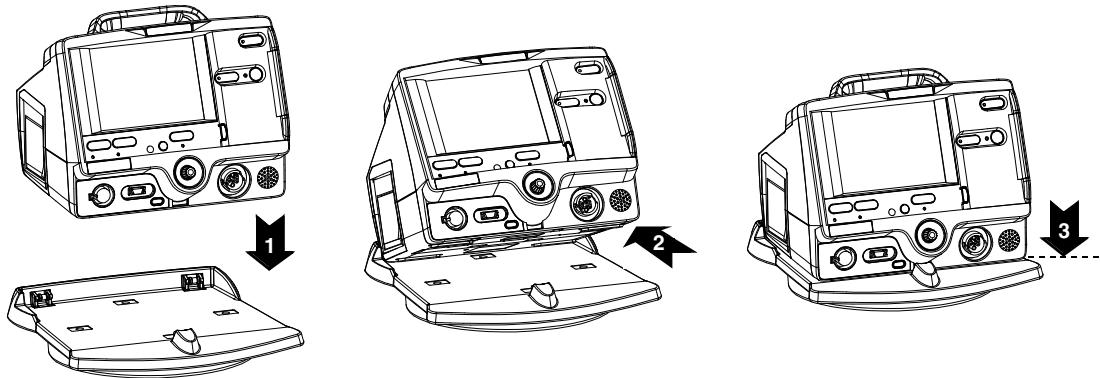

Figure G-1 Docking Station
- 1 Hold the LIFEPAK 20e defibrillator/monitor by the handle over the docking station (refer to Figure G-1, arrow 1).
- 2 Tilt the LIFEPAK 20e defibrillator/monitor backward into the docking station, aligning slots in the rear of the defibrillator to rollers on the docking station (refer to Figure G-1, arrow 2).
- 3 Align recess in lower front panel of the LIFEPAK 20e defibrillator/monitor with the front roller on the docking station and press down on the front of the LIFEPAK 20e defibrillator/monitor until you hear a click (refer to Figure G-1, arrow 3).